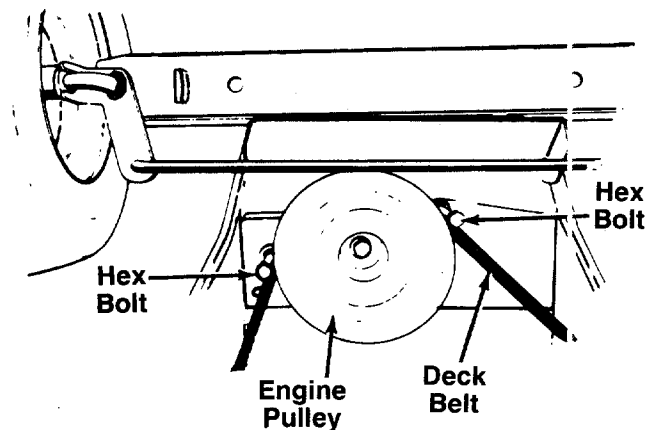

FIGURE 20.
NOTE: Figures 20, 23 and 24 are shown with the unit tipped up for clarity. It is not necessary to tip the unit to remove the belts.
2. Remove the two hex bolts (belt keepers) from the engine pulley belt guard. See figure 20.
NOTE: Make certain hex bolts are reassembled as shown in figure 20.